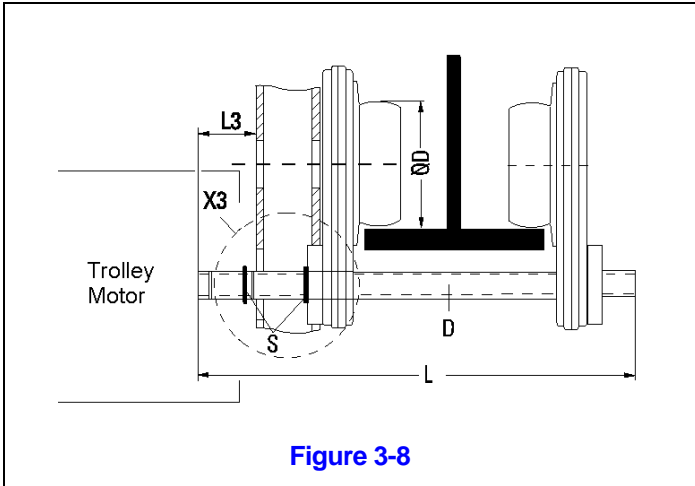

Figure 3-8
Install Snap Rings (S) on to Driveshaft (D) in position X3 or X4 depending on flange width (B) of the runway beam and length (L) of drive shaft (D). Slide Drive Shaft through drive pinions and install trolley motor. (See Figures 3-8, and 3-9. Also see Tables 3-2 and 3-3.)
Table 3-2 Drive Shaft Length and Positions for Fig 3-8, 3-9 and 3-11
Table 3-3 L3 and L4 Dimensions from Fig 3-8 and 3-9